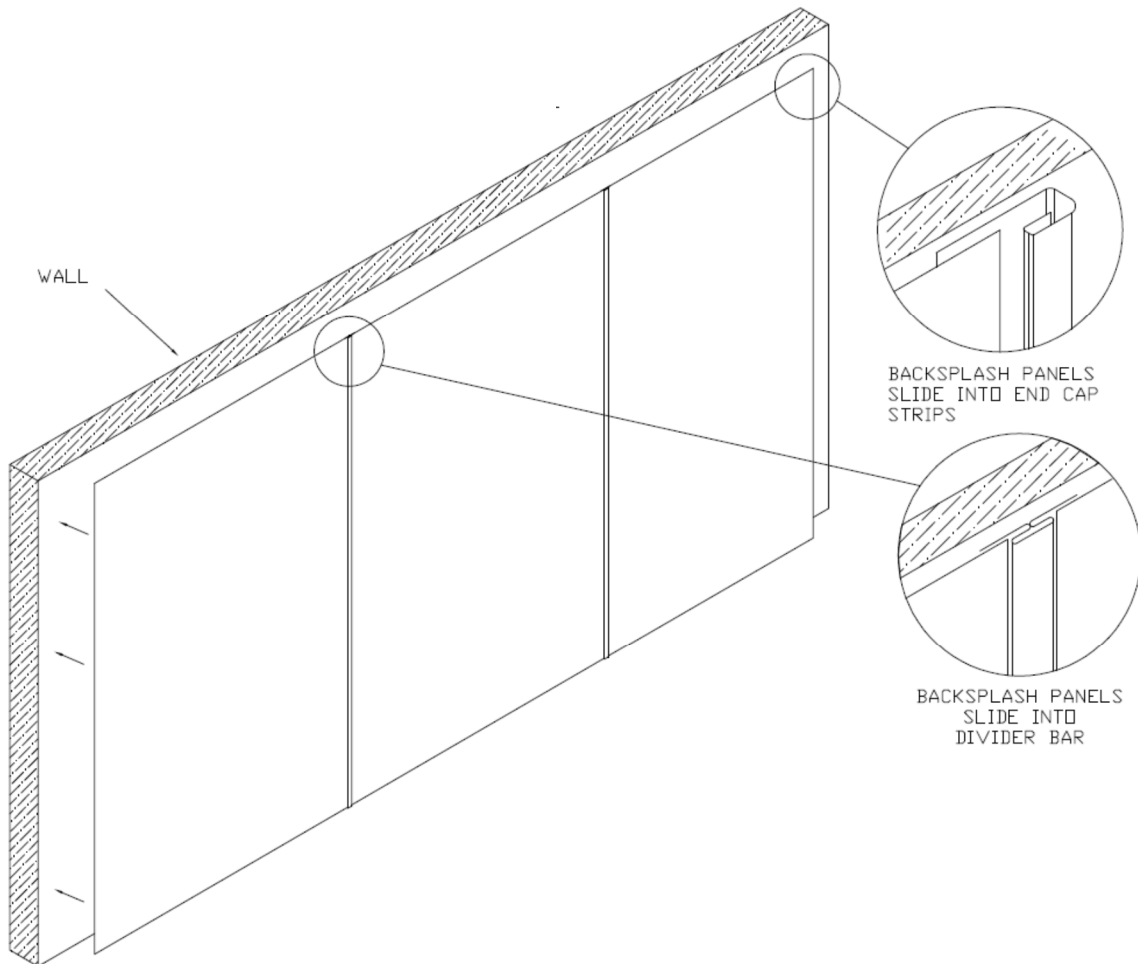

Figure 21
4. Secure panels and trim pieces to the wall using construction adhesive. **See Figure 21.**